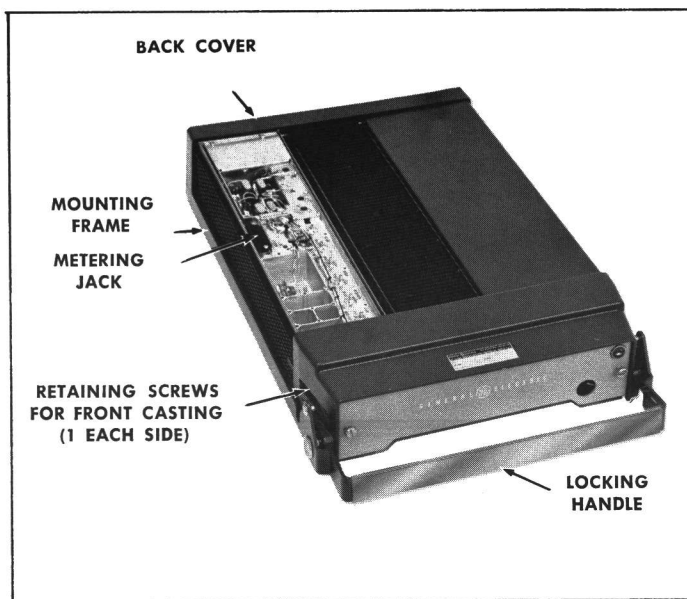

Figure 3 - Removing Top Cover
1. Pull locking handle down and pull radio about one inch out of mounting frame (see Fig. 3).
1. Loosen the two Phillips-head retaining screws in from casting (see Figure 3), and pull casting away from system frame.